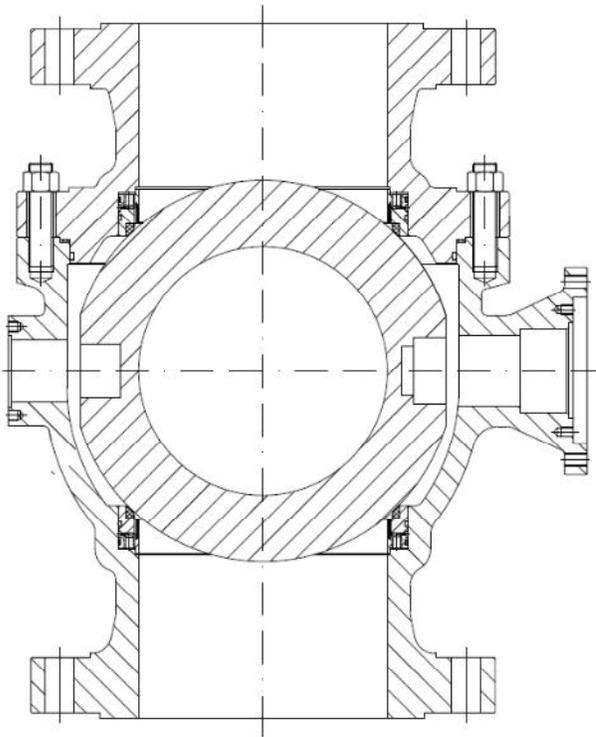

Figure 5
- 6.3 Place the valve vertically on a rubber-cushioned surface to prevent the flange face from being damaged, see Figure 5
- 7.6 After the valve seats are mounted in place, point the flange face of valve body downward and then place the body vertically on the work surface. Lift up the ball and place it carefully into the body. Hold the ball while it is lifted and being placed in order to prevent scratches and abrasions to the ball due to swinging. For specific steps, see Figure 5.